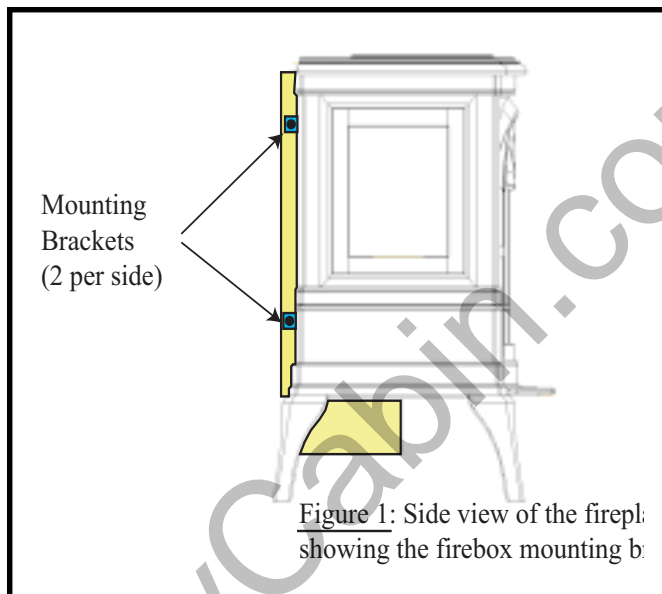

Figure 1: Side view of the fireplace showing the firebox mounting brackets
4. Locate the firebox mounting brackets on the side of the firebox. Remove the screws securing the firebox to the mounting brackets. (Figure 1).
4. Locate the firebox mounting brackets on the side of the firebox. Remove the screws securing the firebox to the mounting brackets (Figure 1).